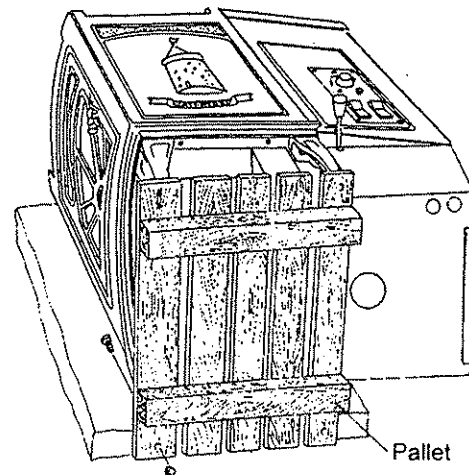

Fig. 5
- Place the plastic packaging on the ground at the side of the stove and lay the stove over on its side on top of the packaging (fig. 5).